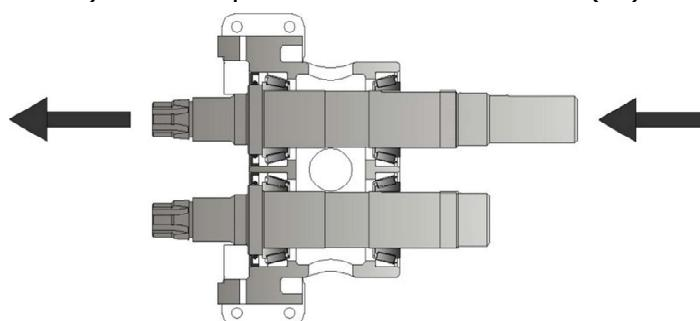

Figure 33 - Removing shafts
- Using a light press or soft hammer, drive out the shafts (24 & 25) towards the front (rotor case end) of the bearing housing (1) (Figure 33). This will push out the front oil seals (23).